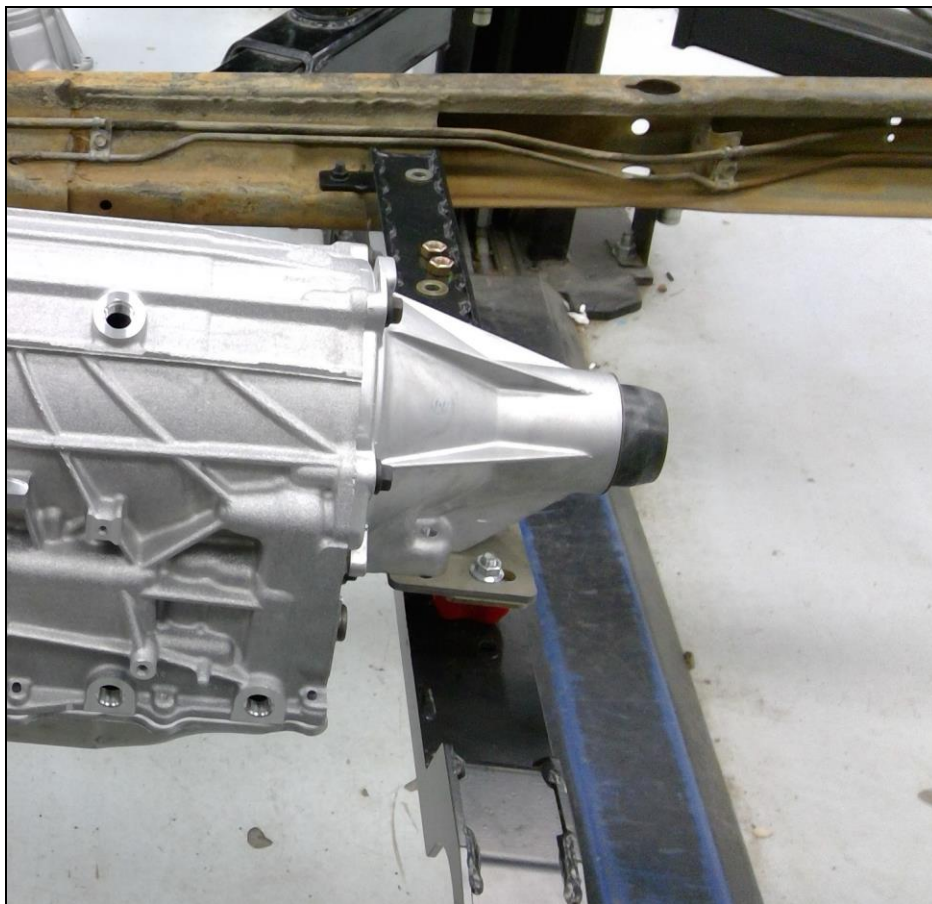

Figure 1
1. Using a 6L80 8L90 10L80/90 transmission, install the adapter bracket using the supplied hardware in place of the original transmission mount and tighten. The adapter will be installed with the front to rear slots facing the rear of the vehicle. If a 10L80/90 car transmission is being used, mount adapter BHS5181 will also be needed along with the ¼" spacer included with the crossmember to correct mounting pad height and bolt pattern. 6L80 will need 11/16" spacer PN:71223015HKR (**Figure 1**).
2. Install rubber transmission mount as seen in **Figure 1** with supplied hardware and tighten.